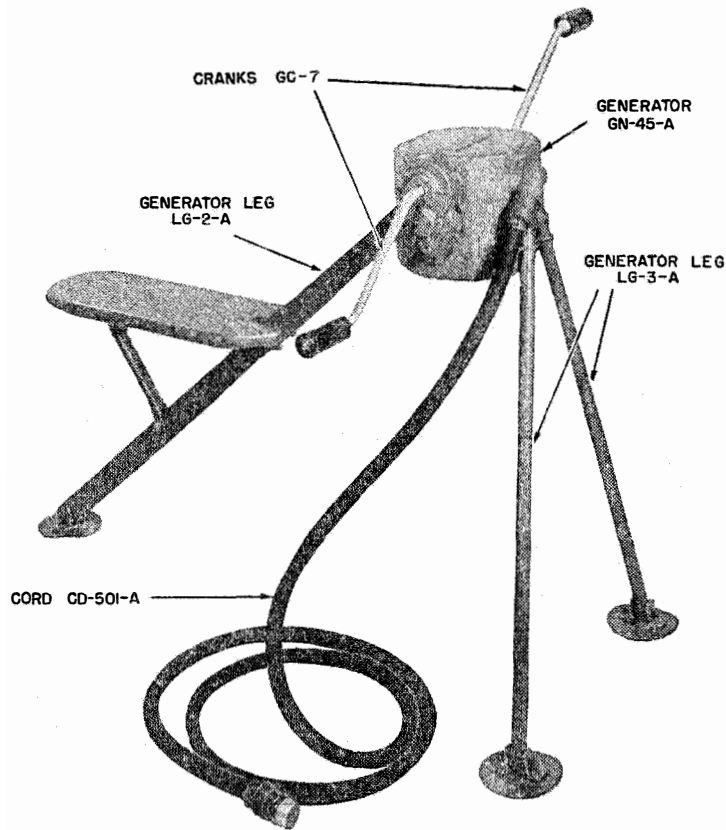

FIG. 4. GENERATOR GN-45-(*)
f. *Generator GN-45-(*)*:— (FIG. 4)